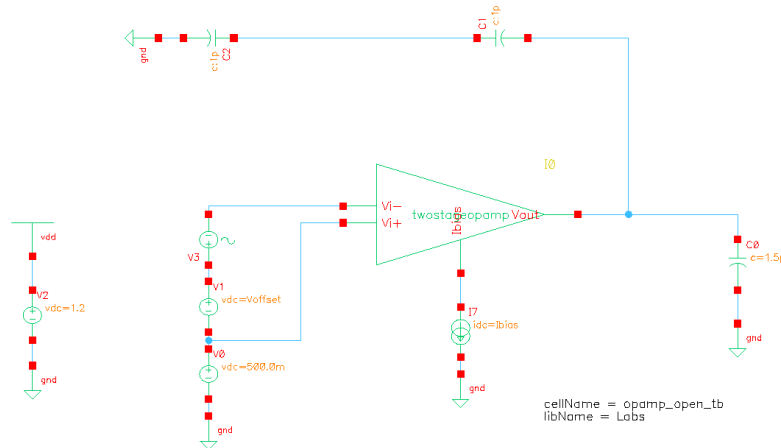

Figure 9: Open loop configuration.
4. How can the loop gain be measured? Indicate this in fig. 9.
2. Prepare for open-loop simulations by building a suitable test bench (fig. 9).